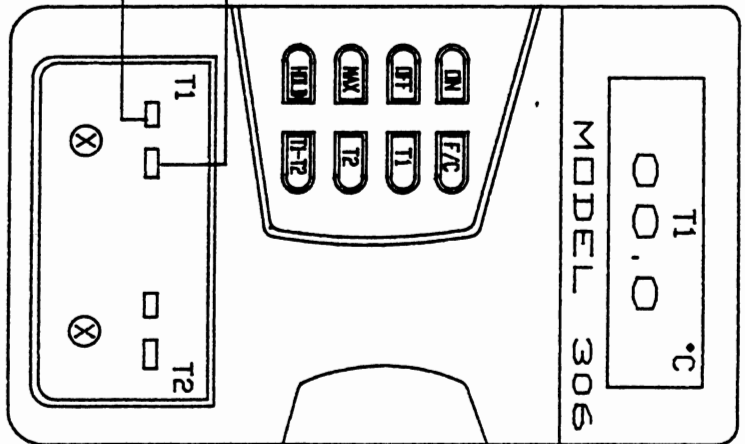

FIGURE 1
1. SET UP THE EQUIPMENT AS SHOWN IN FIGURE 1.